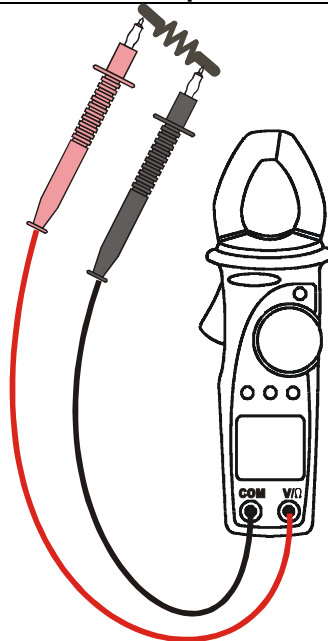

Fig. 8: use of clamp for continuity measure
2. Insert the test leads into the jacks, the red lead into “+” jack, and black lead into COM jack, as shown in Fig. 8.